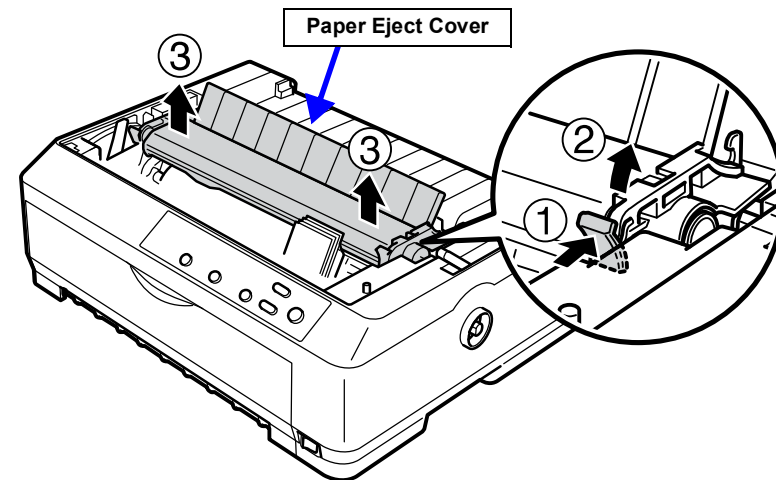

Figure 4-3. Paper Eject Cover Removal
- Paper eject cover. (See Figure 4-3)